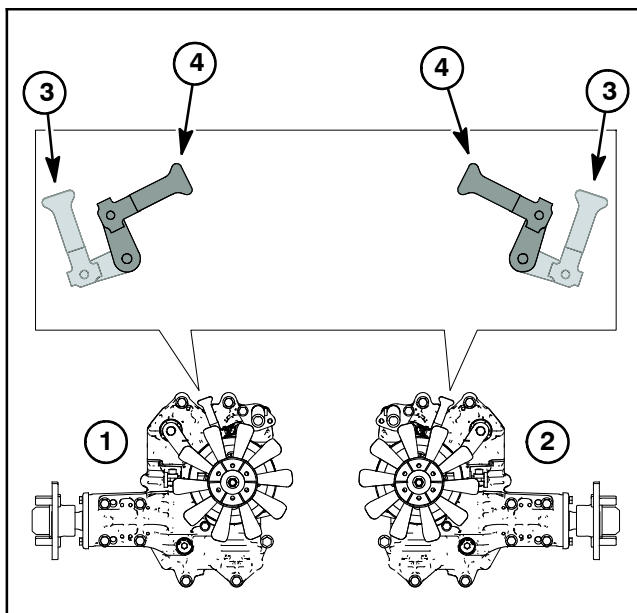

Figure 3
2. From beneath the machine, locate the bypass- valve levers that are on the top of each transmission (Fig. 3). Rotate the bypass- valve levers so that they point inward, toward the center of the machine. This allows the hydraulic oil to bypass the internal transmission motors, enabling the machine wheels to turn freely.